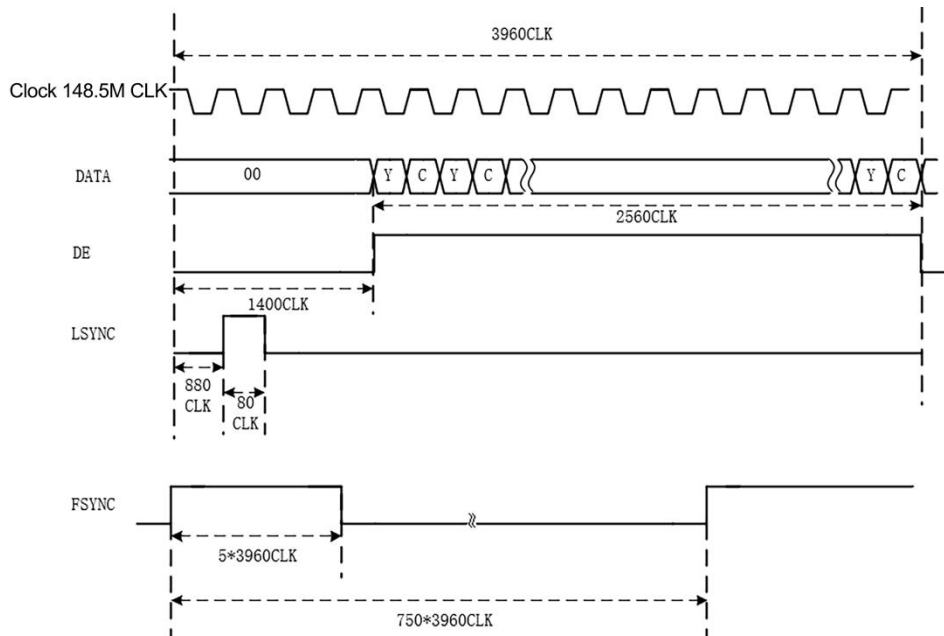

Figure 2.4 SDI Parallel Digital Video Timing
The module supports outputting 10-bit parallel digital video signals, including 1 clock signal (CLK), 1 line valid signal (LSYNC), 1 frame valid signal (FSYNC), 10 data signals (DATA0-DATA9), and 1 data enable signal (DE). Let's take 720P@50Hz as an example. The SDI parallel digital video timing is shown in Figure 2.4.